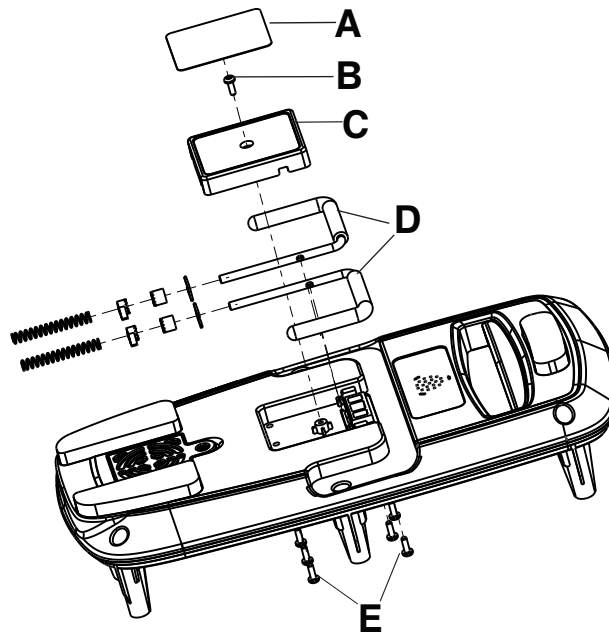

Figure 24 – Hook assembly
4. Using a pick, remove the information label (A) on the hook assembly (Figure 24). Discard the information label.